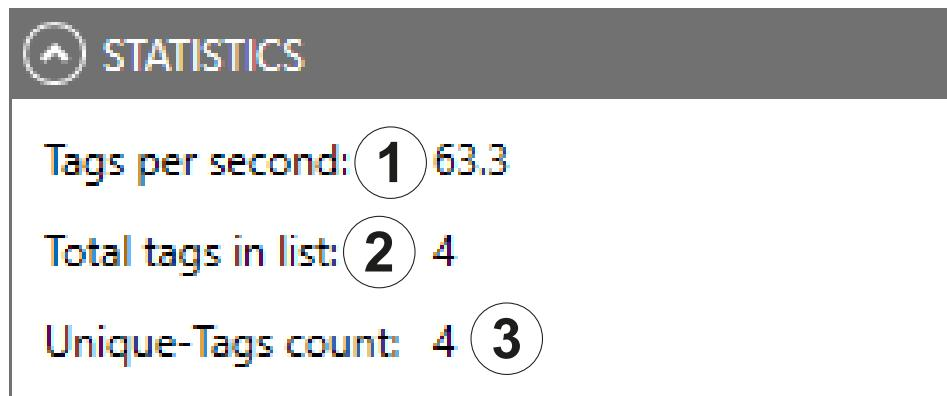

Fig. 54: Basic reading: statistics
Having selected the ARU 8500 (⑥ in Fig. 54 under *Options*, the lower part of the screen shows the spatial allocation of a transponder: